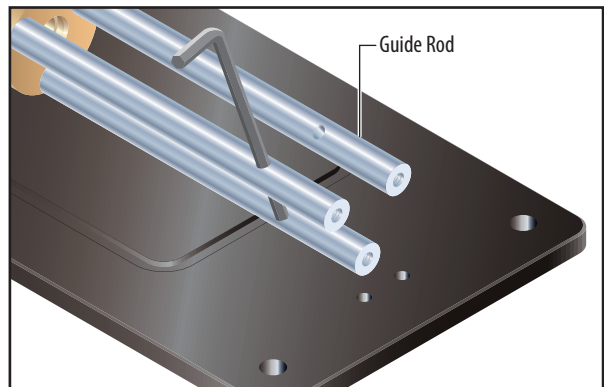

Figure 9
- 12** To remove the three (3) stainless steel Guide Rods, insert the 4mm Allen key into the hole in the side of each rod, and then pull to the left (counter-clockwise) to loosen and unscrew each one (**figure 9**).